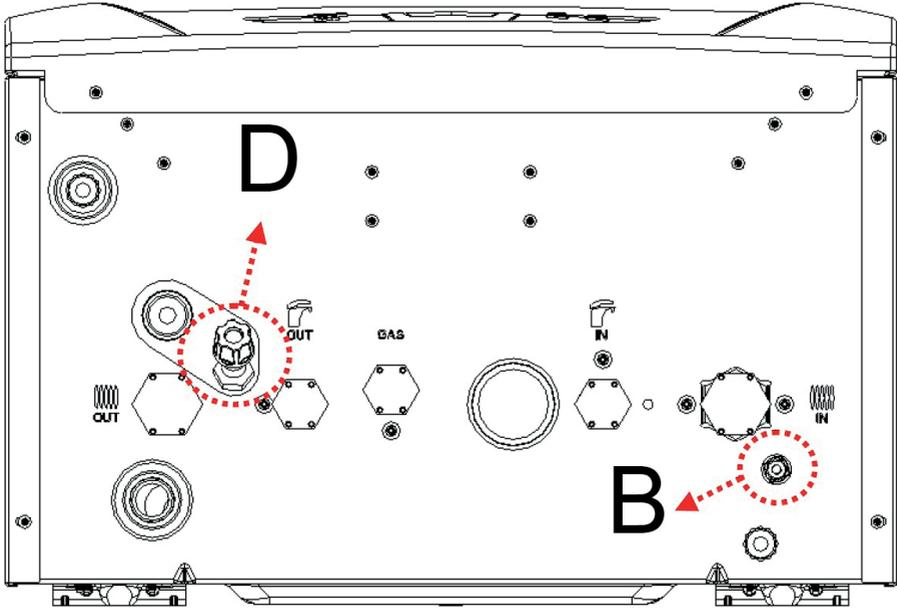

Figure 2. Bottom view of Seradens Super Plus combi boiler
Pressure sensor is included in Seradens Super Plus combi boilers. After all connections (electric, fittings and flue) are completed, system could be filled by means of filling tap (F) which is positioned at left-bottom side of the boiler (Figure 2). Before filling the system, press user info key (2) for 2 seconds and see pressure value on basic digit area. Filling operation must last until "1.2 bar" value is displayed on the screen. If the user info menu is closed before the intended value is reached (it is closed after 30 seconds), enter the user info menu again by pressing key (2) for 2 seconds in order to be sure of that sufficient amount of water is filled to the system.
If the water pressure falls down under a certain value, E04 error is seen on the screen. In order to increase the pressure value, open the filling tap (F) in Figure 2. Check the pressure value from the screen to avoid filling the system excessively. Keep filling the system until the pressure reaches 1.2 bar, then close the filling tap.
Excessive filling of the heating system leads to E47 error, this is a precaution to avoid uncontrolled discharge of excess water from 3 bar safety valve. If you see E47 error on the screen due to excess pressure, discharge the proper amount of water by means of drainage tap (D) (Figure 2) or follow the instructions given in "Water Pressure Errors" in Section 2.10.